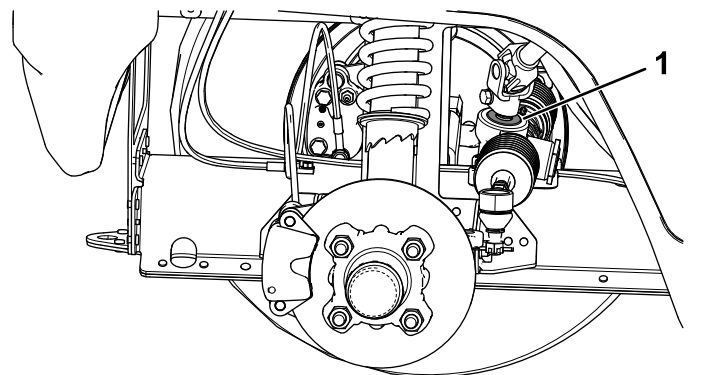

Figure 44
- Important:** Inspect the condition and security of the pinion-shaft seal (Figure 44).